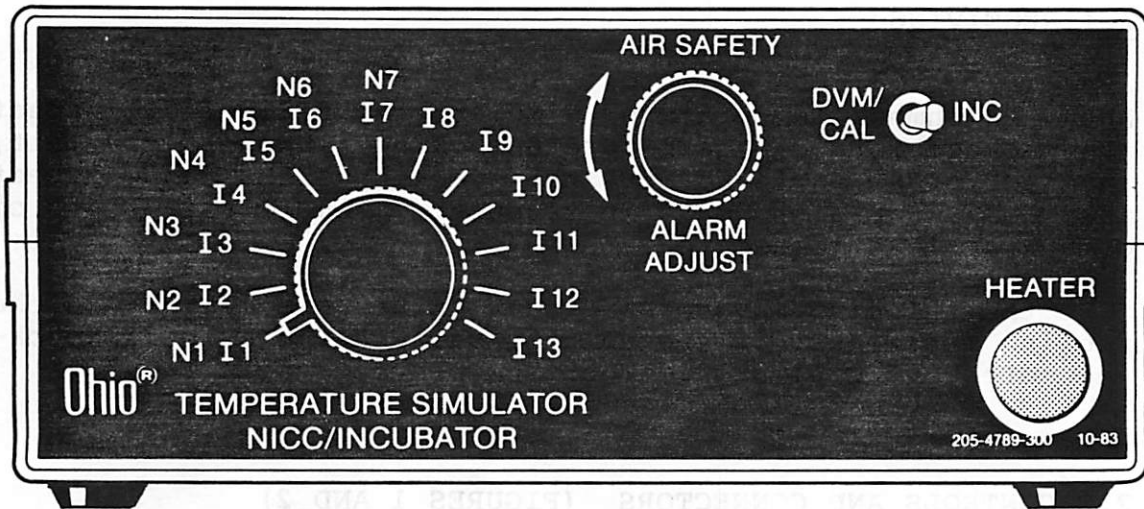

Figure 1.
2.2 CONTROLS AND CONNECTORS (FIGURES 1 AND 2)
2.2 CONTROLS AND CONNECTORS (Figures 1 and 2) 3